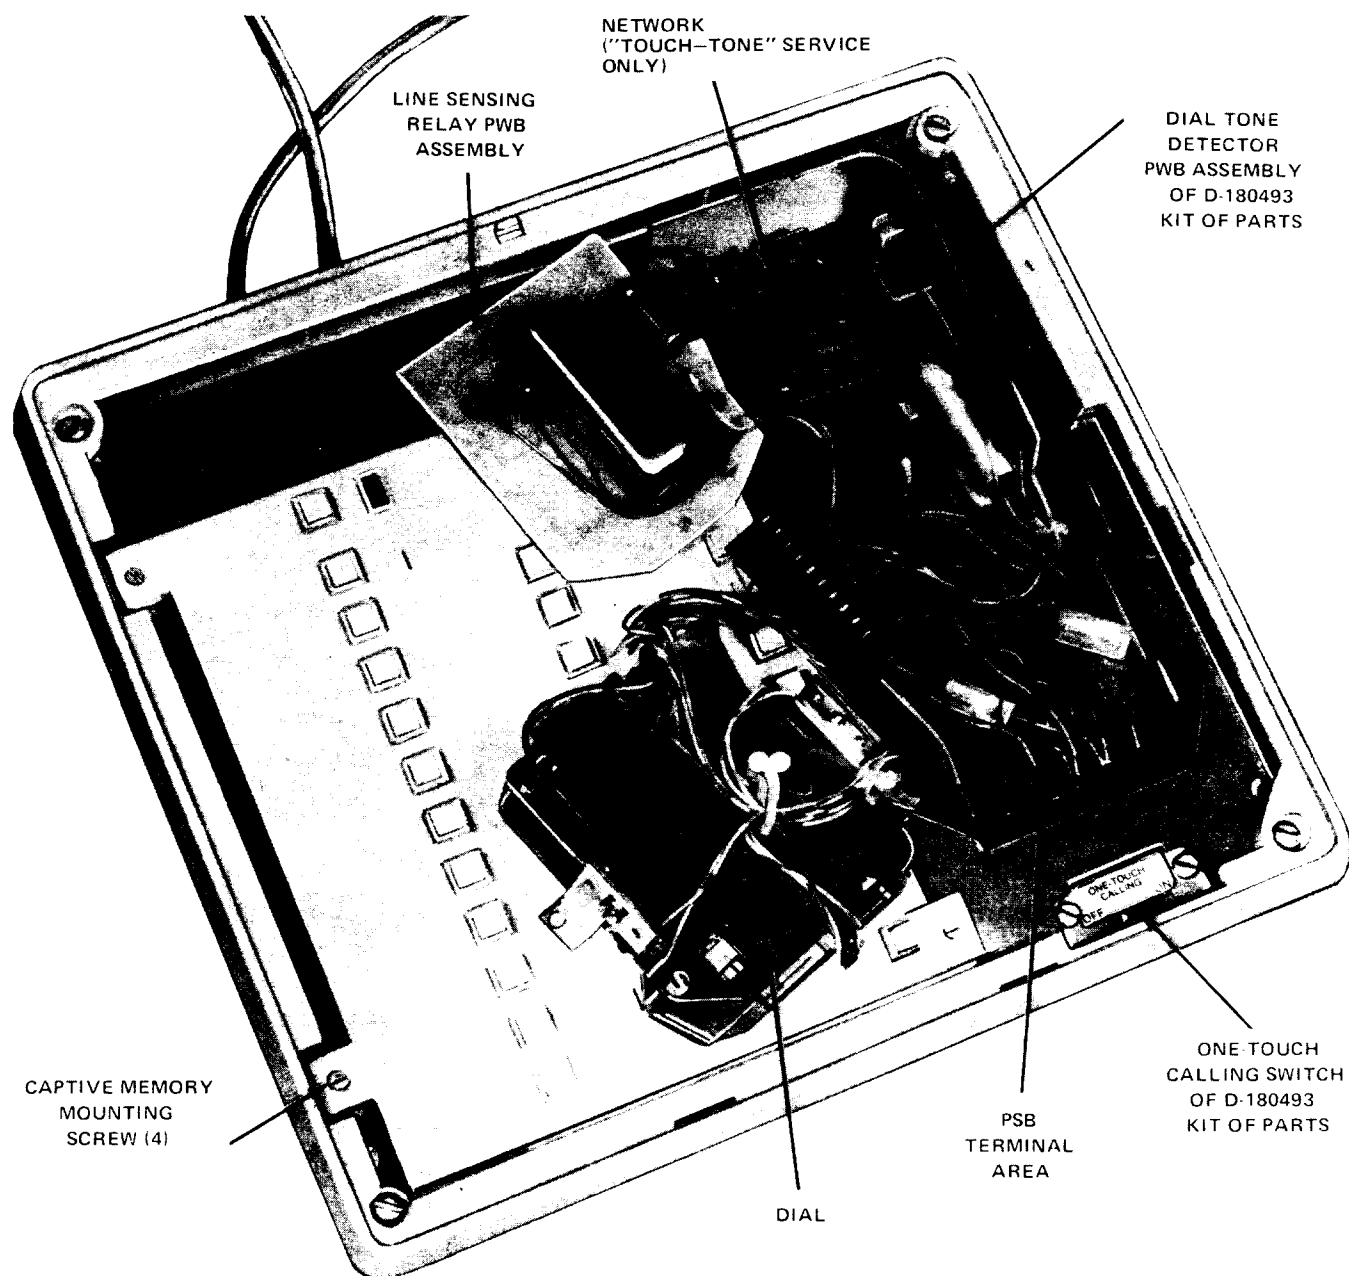

Fig. 3—2870A1 Dial, Dial and Memory Removed to Show Terminal Area
- (1) Remove the housing (paragraph 3.11) and access PSB terminal board (paragraph 3.09).
- (2) Insert the dial tone detector board assembly from the back of the dial, such that the two tabs on the board assembly fit into the slots in the chassis (Fig. 3).
- (3) Insert the self-threading screw through the side of the chassis to secure the board in position.
- (4) Mount the one-touch calling switch below the dial with the two screws provided.
- (4) Loosen the four captive Memory mounting screws (Fig. 3).
(6) On the 870A1 dial, place the 8-type dial aside to gain access to some of the PSB terminals. On the 2870A1 dial, carefully disengage the connector of the 35-type dial and rotate the dial onto the memory button field (Fig. 3).
(7) Remove the two mounting screws for the Line Sensing Relay Board and place the board assembly aside to access the remaining terminals on the PSB.
(8) To reassemble, reverse this procedure.